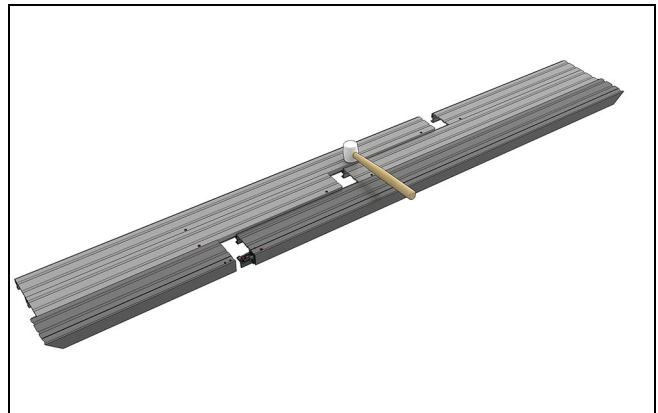

Figure 32
- 3.** Press the splice sections together and seat with a rubber mallet. See Figure 32.